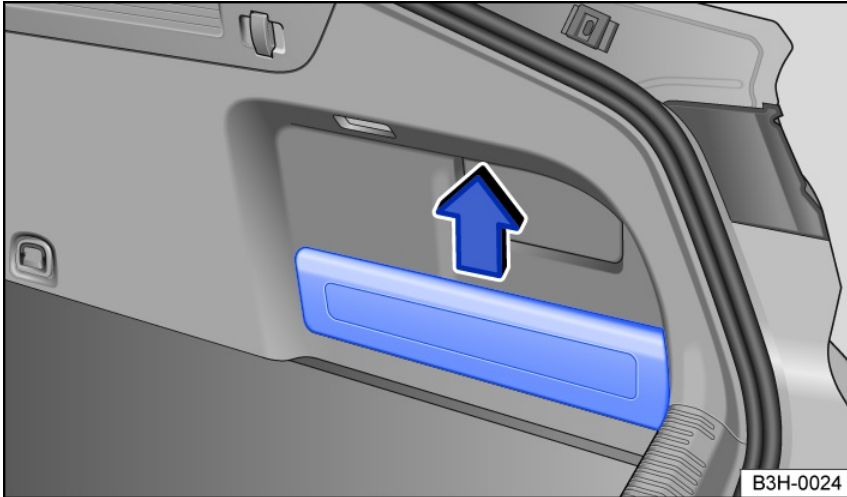

Fig. 140 In the luggage compartment: Storage compartment at the side with side panel.
1. Lift out the side panel in the direction of the arrow *fig. 140*.
1. Insert the side panel in the opposite direction to the arrow *fig. 140*.